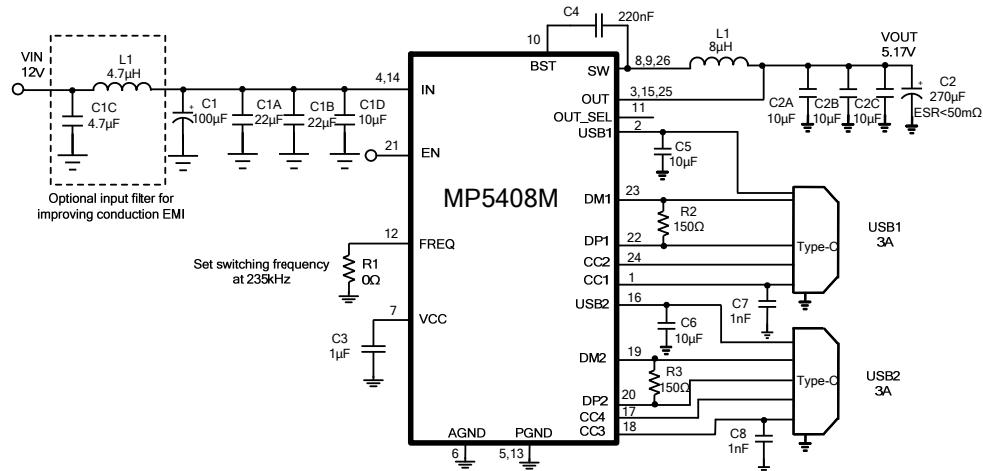

Figure 13: Dual USB Type-C 5V/3A DFP Ports (11)
- 10) The recommended layout is based on the Typical Application Circuits in Figure 13 through Figure 15.